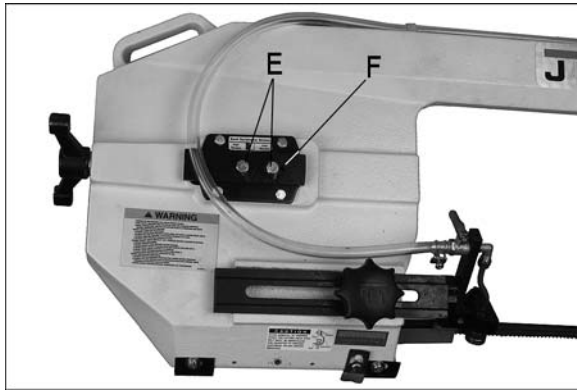

Figure 21
5. If blade will not track in position, loosen screws (E, Figure 21), but do not remove.
6. Turn set screw (F, Figure 21) counter-clockwise so that blade starts to move away from the flange; then immediately turn set screw in the other direction so that blade stops, then moves slowly back toward flange. *NOTE:* This adjustment is sensitive; do it gradually and in small increments allowing blade to respond to the changes.
10. Tighten two screws (E, Figure 21).